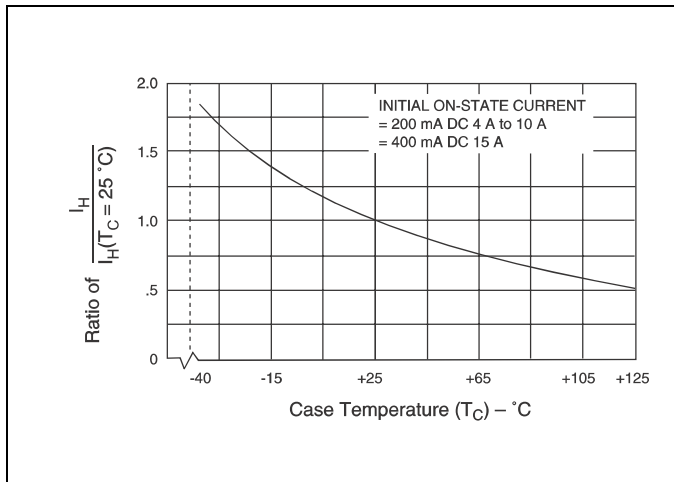

Figure E3.1 Normalized DC Holding Current versus Case Temperature
- (1) For either polarity of MT2 with reference to MT1
- (2) See Figure E3.1 for I_H versus T_C .